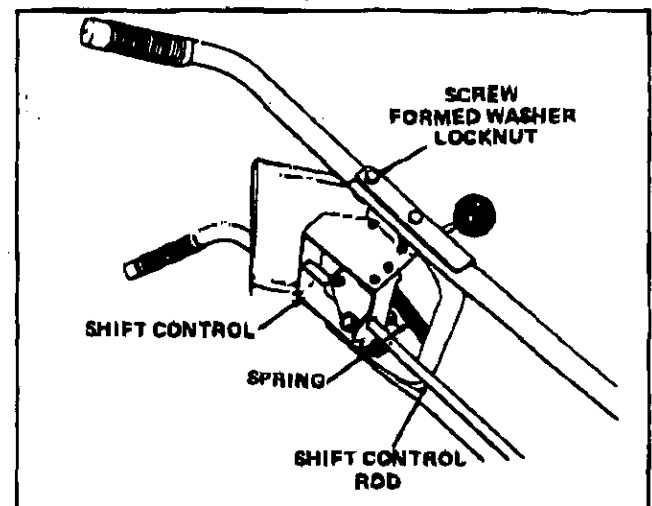

Figure 4
2. Secure upper handles and control panel (figure 4) with four 1 1/4 inch screws, formed washers and locknuts.